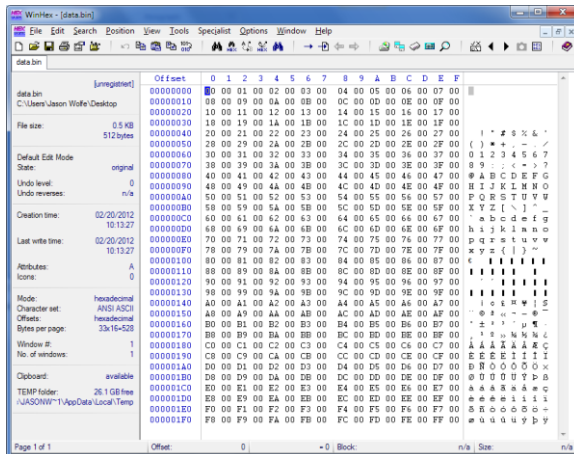

Figure 6 – Hex Editor with Incrementing Count
- e. To verify that the data read correctly, click the “Edit” button in the “Read” section. This will launch a hex editor that will display the contents of the file. Verify that there is an incrementing count as shown in Figure 6. Note that depending on the endianness of your system, the MSB and LSB of the read data may be reversed from that shown in Figure 6.